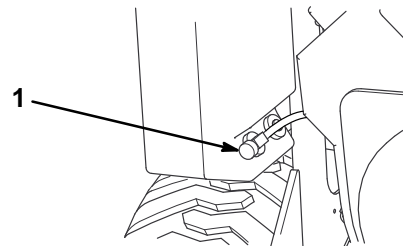

Figure 25
2. Shut off the fuel valve on the bottom of each fuel tank (Fig. 25).
3. Shut off the fuel valve on the bottom of each fuel tank (Fig. 25).